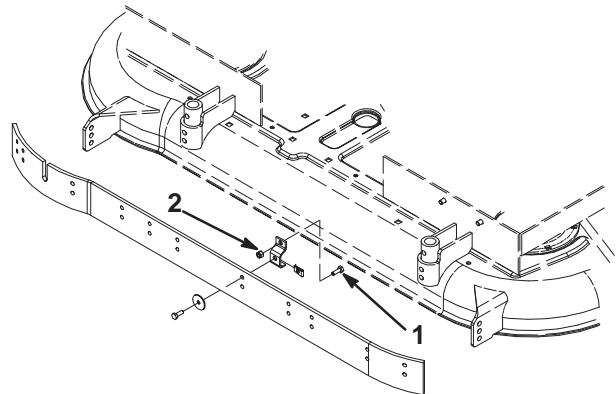

Figure 12
7. Secure mounting brackets to mower deck with 1/4 x 3/4 inch (19 mm) screws and 1/4 inch lock nuts. Screw heads to be positioned so the heads are on the inside of the deck and nuts to the outside as shown in Fig. 12.